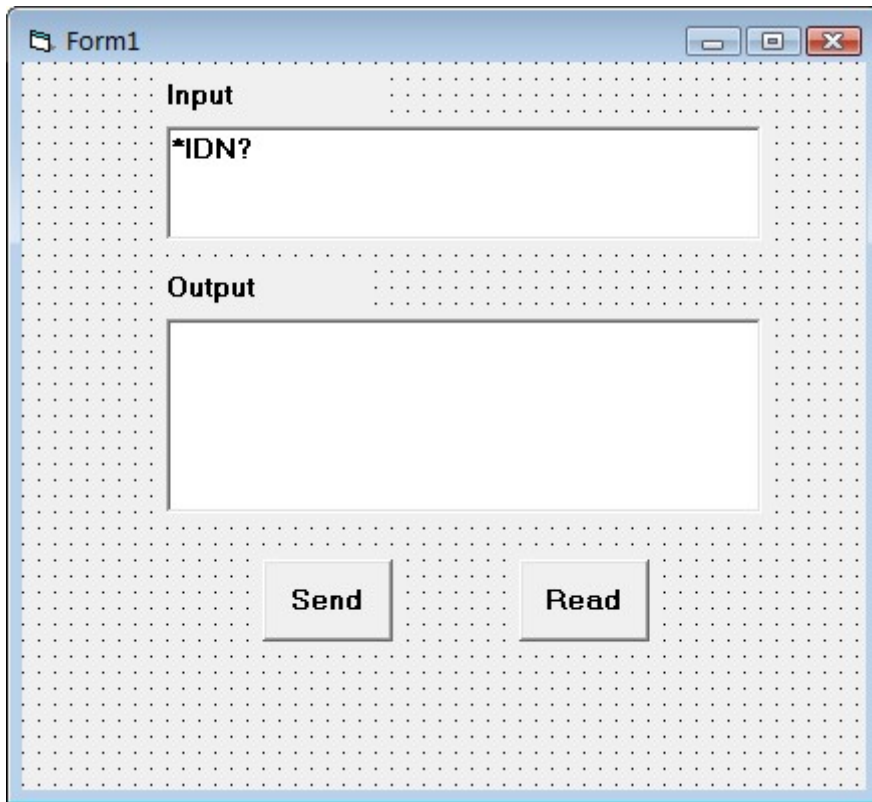

Figure 4-2-2
3. Add two Lables respectively named as Input and Output, two TextBox and two CommandButtons named as Send and Read seperately. Set Text in the attribute of TextBox under Input as *IDN?. See figure 4-2-2.